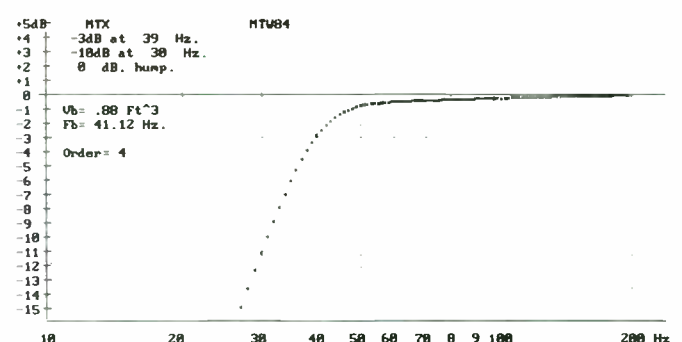
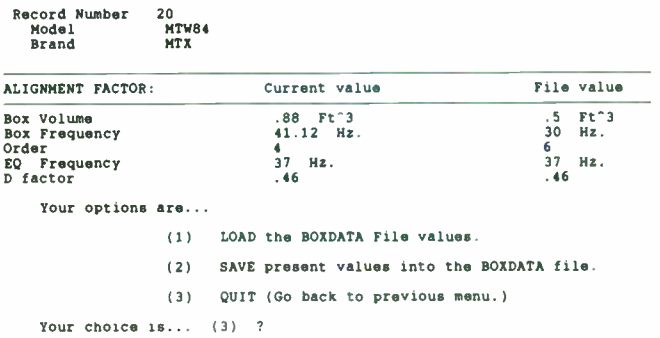
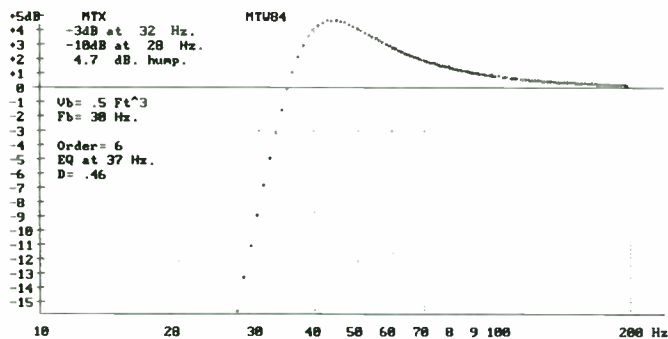

FIGURE 4: Frequency response of MTX MTW84 8" woofer in theoretically optimum vented box.
FIGURE 6: File save screen.
FIGURE 7: Erroneous response created by recalling file data from Fig. 6.
separate screen (Fig. 6) can be displayed each time that particular driver is retrieved from the browse files. However, it was here that I found a serious "glitch" in the program.
For example, Fig. 4 is the response of an MTW84 in the theoretical fourth-order vented box. For a second run, I attempted to reduce the box size and adjust the tuning to improve the response with a second-order equalizer. The result is Fig. 5, which looks pretty good. I then saved the alignment in the Boxdata file by selecting option "S" on the Output menu. The "current" values and my "file" data are shown in Fig. 6. Option (1) says you can then load the file values. When I did this, I got Fig. 7. Not good. The system appears to overwrite the "file" data on top of the "current" data. The results are erroneous.